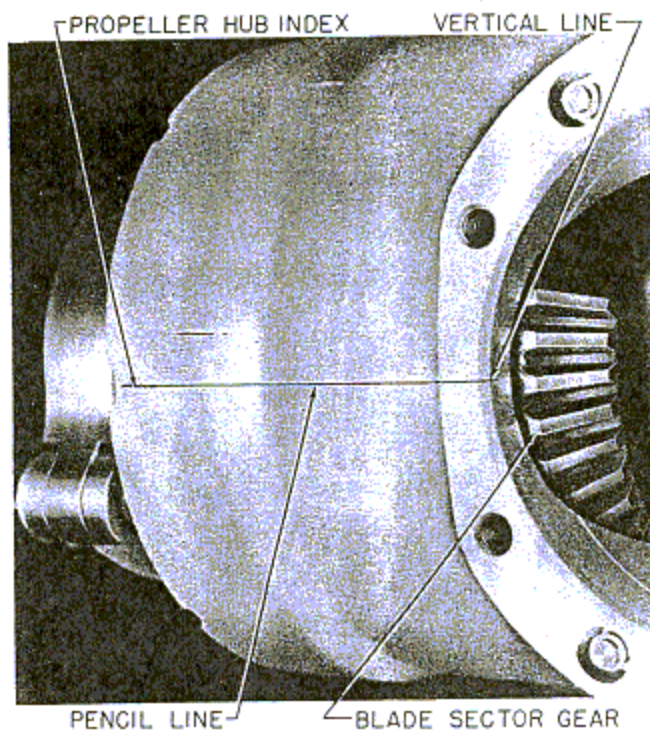

Figure 184—Sector Gears Setting
(d) SETTING OF BLADE SECTOR GEAR.—As the propeller blade is rotated into high pitch angle, the leading edge of the third tooth of each blade sector gear is brought up to vertical center line as explained in paragraph (7), (c), preceding. (See figure 184.)